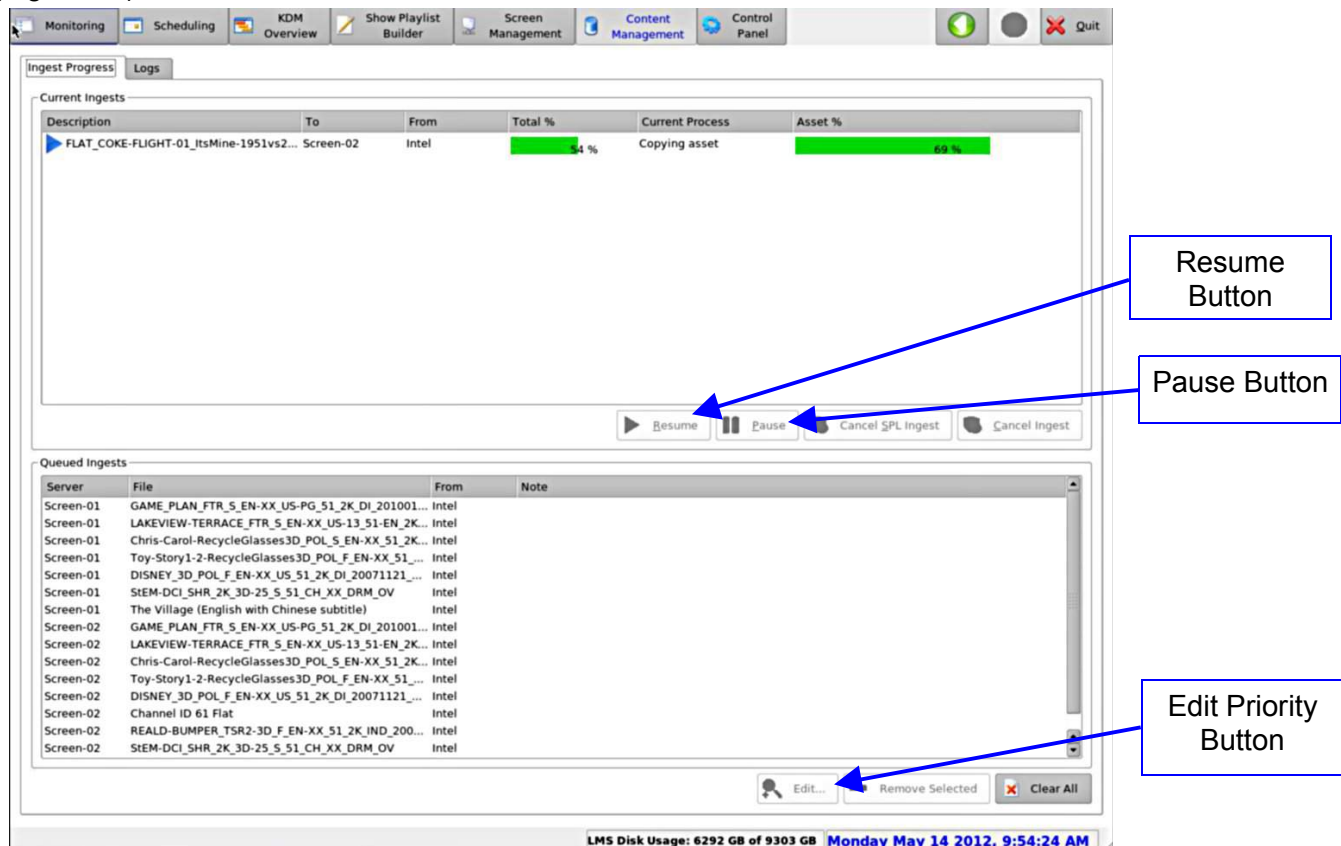

Figure 84: Content Management: Ingest Progress Tab
- To enter the Content Management tab, click on Content Management on the top of the GUI (Figure 84).
- The user can also pause and resume an ingest using the Pause and Resume buttons (Figure 84).
- The user can also change the priority of the ingest using the Edit Priorities button (Figure 84).